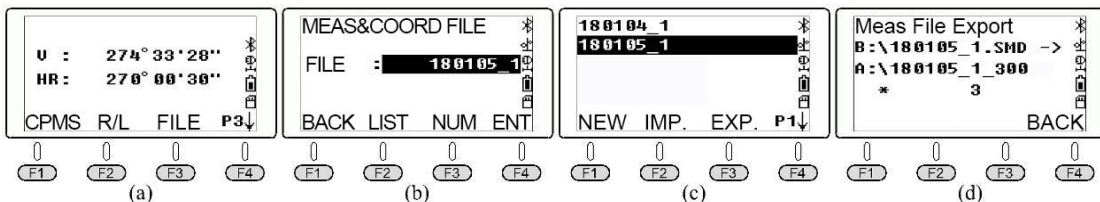

Figure2-11 Execute the commands of "File/List/Export" from the function menu on page P3 of Angle Measurement
① Target point B when face left. Press button F3 (HSET), and then press buttons $\text{0} \text{ } \text{.} \text{ } \text{0} \text{ } \text{.} \text{ } \text{3} \text{ } \text{0}$ and button F4 (Confirm) to set the reading of the horizontal angle to be $0^\circ 00'30''$ [Figure 2-11(d)].